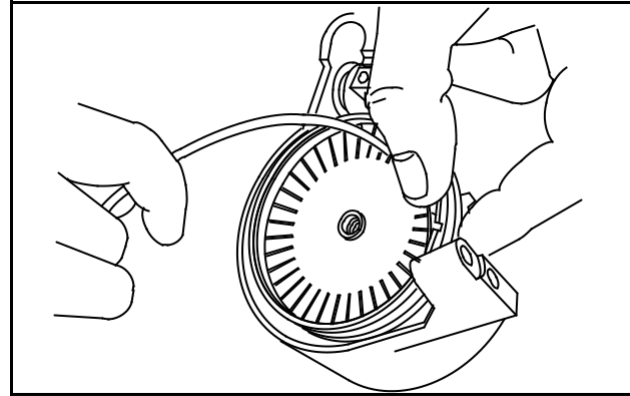

Fig. 57
2. Hook end of spring into spring retainer on outside diameter of pulley, Fig. 57.